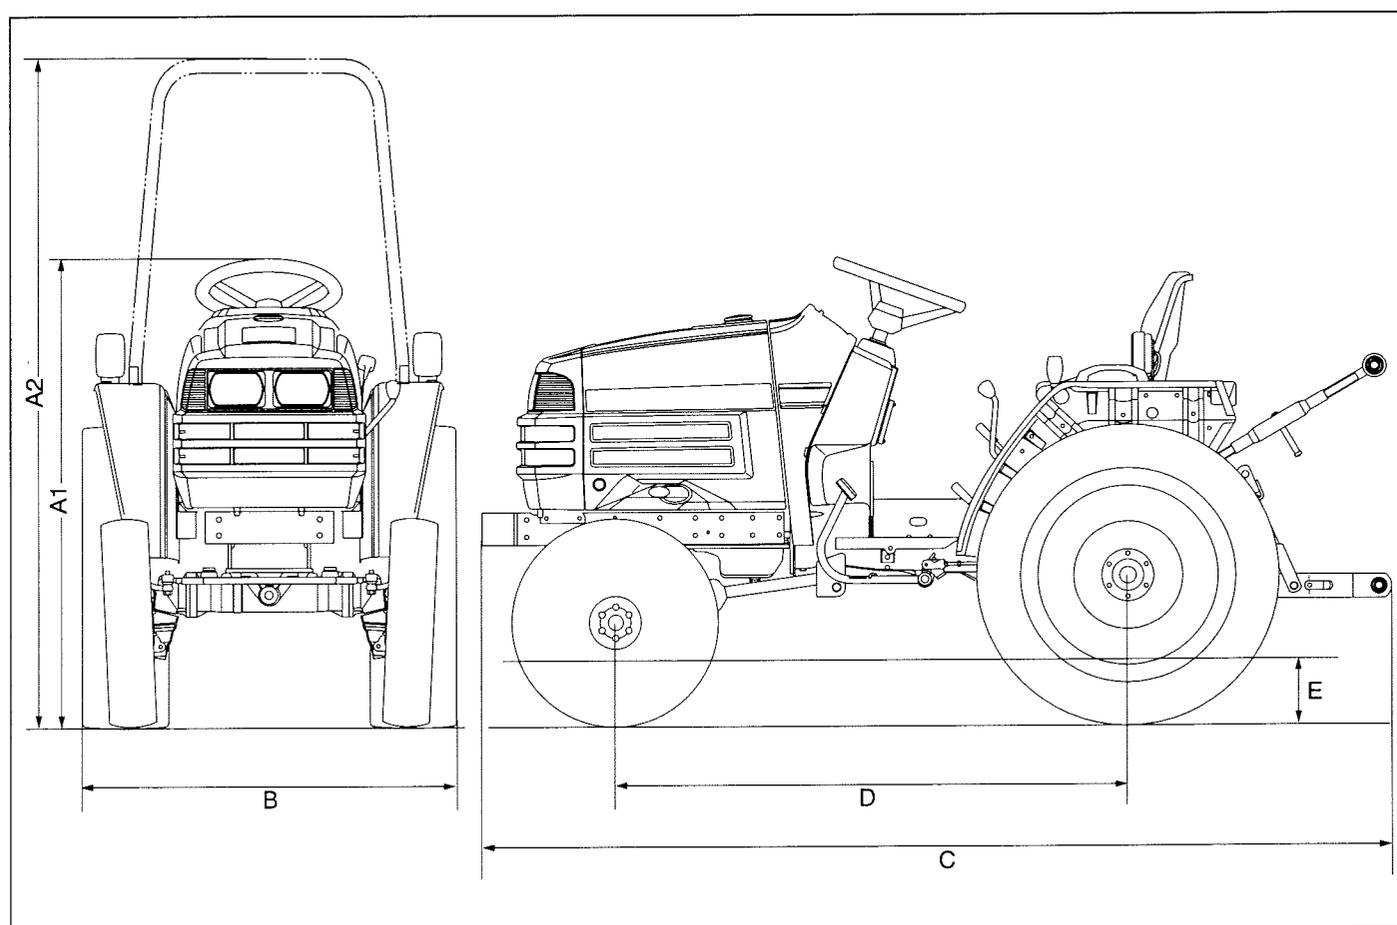

FIG. 116
9. Clutch Housing Plug – 1/8” pipe plug (1) in Fig. 116 into the hole in the bottom of the clutch housing (TM215/217).